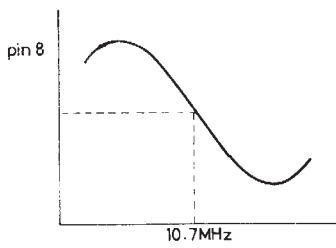
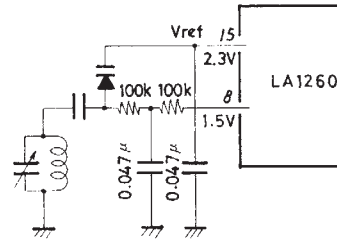

Figure 1
Figure 2 Domestic (lower local oscillation) band
- The values recommended for the detection coil are shown below. (See Figure 1.)
The S curve at the FM output pin (pin 8) is as shown in Figure 1. Therefore, the domestic (Japan) band (lower local oscillation) use and foreign band (upper local oscillation) use differ as shown in Figures 2 and 3.